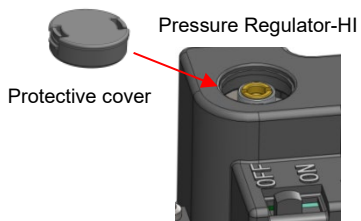

Figure 52
2. Connect a calibrated manometer (or appropriate gas pressure gauge) at either the gas valve inlet pressure tap or the gas piping drip leg. See figures 52 & 53 for location of inlet pressure tap.